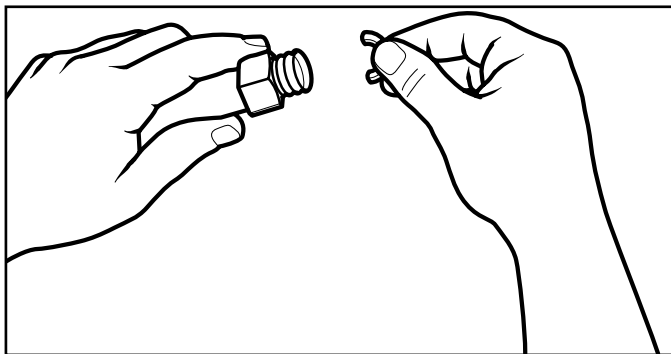

Figure: 4-5
3. **INSTALL FITTING NUT:** Slide nut over cut end: place two split-rings into the first corrugation next to the tube cut. Slide nut forward to trap the rings. Figure: 4-5